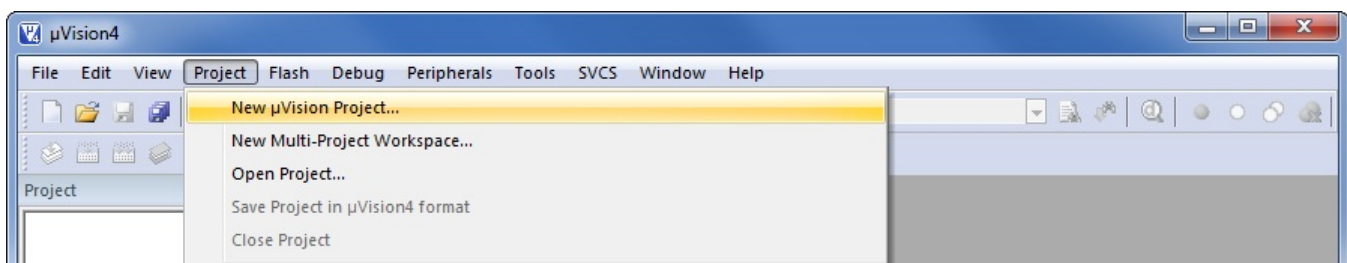

Figure 11.
- In the Project menu, select Project → New uVision Project... (see Figure 11).